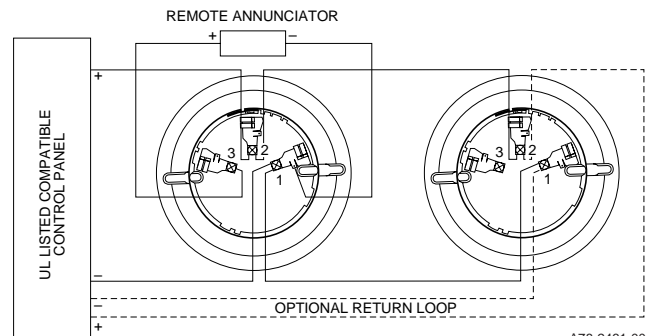

Figure 1. Wiring Diagram
1. Wire the sensor base (supplied separately) per the wiring diagram, see Figure 1.